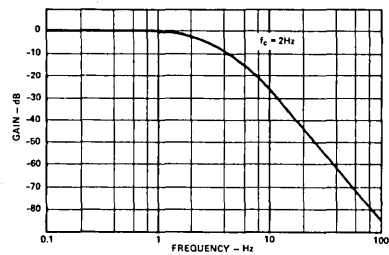

Figure 11. Filter Amplitude Response vs. Frequency
**Low Pass Filter:** The three pole Bessel-type active filter attenuates unwanted high-frequency components of the input signal above its cutoff frequency ( $-3\text{dB}$ ) with  $60\text{dB}/\text{decade}$  roll-off. With a 2Hz filter, attenuation of  $70\text{dB}$  at 60Hz is obtained, settling time is 600ms to 0.1% of final value with less than 1% overshoot response to step inputs. Figure 11 shows the filter response.